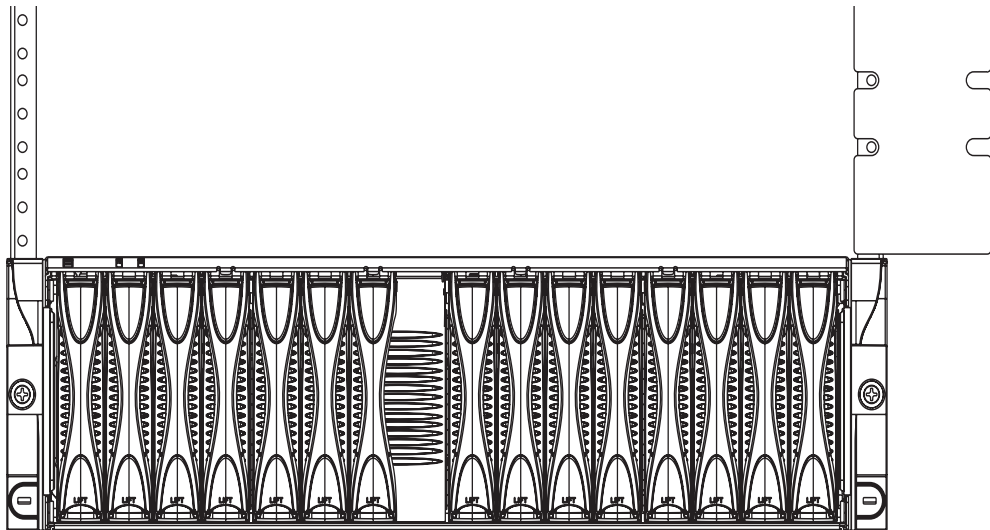

FIGURE 3-1 Using the Rack Buddy
1. Hold the Rack Buddy to the rack so that the bottom of the Rack Buddy is either just above the top of a system already installed in the rack or above the bottom of the rack (FIGURE 3-1).